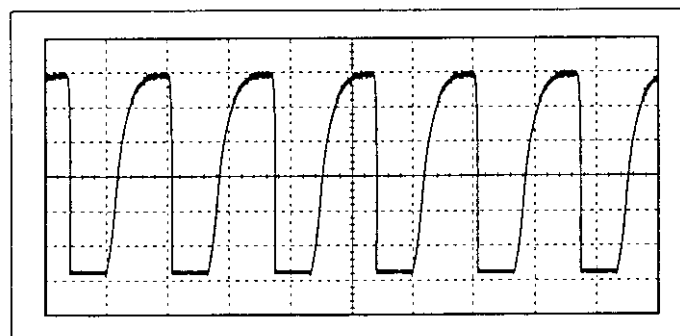

Figure 5. IR link.
- Set the test point switch on the selector box to **TP17** and check that the signal is as in figure 5. Amplitude > 2,5 Vp-p.